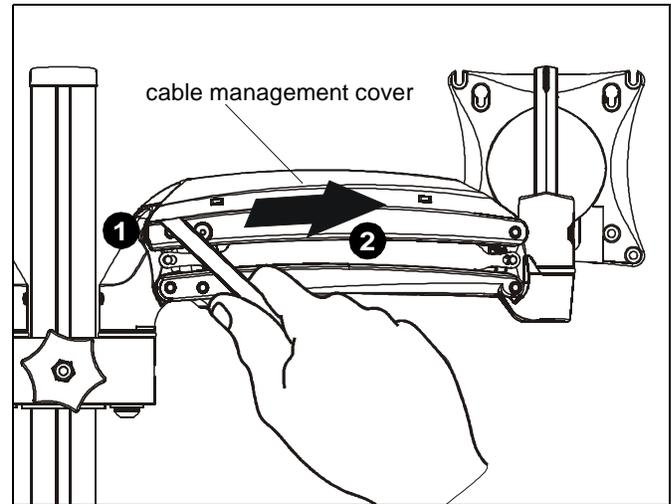
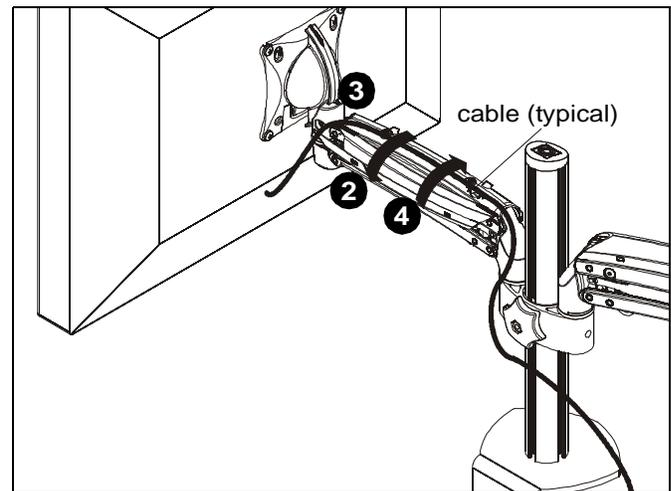

Figure 10
Figure 11
1. Use screwdriver to unhinge tab on either end of cable management cover on upper arm. (See Figure 10)
2. Slide screwdriver along edge of cover until remaining tabs are unhinged and cover is in the "open" position. (See Figure 10) and (See Figure 11)
3. Route cables through cable management channel. (See Figure 11)
4. Close cable management cover on monitor arm. (See Figure 11)